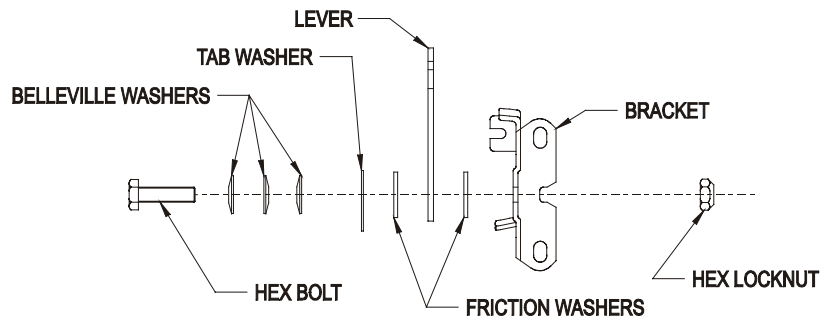

Fig. 9
- b) Tension in throttle lever can be adjusted by adjusting the tightness of the lever pivot bolt, which is located under the console. See Fig. 9.